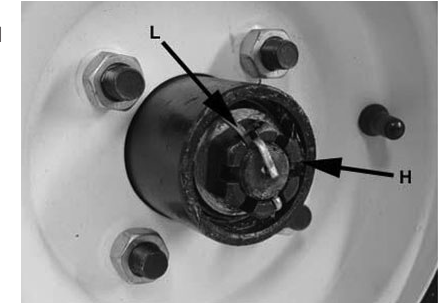

Figure 6-3
9. Spread cotter pin (L) to retain castle nut. See figure 6-3.